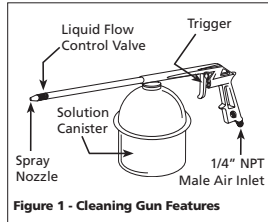

Figure 1 - Cleaning Gun Features
2. Corrosion	2. Disconnect canister from tool and add two drops of mineral spirits in the siphon intake tube on the tool after each use (See Figure 1)